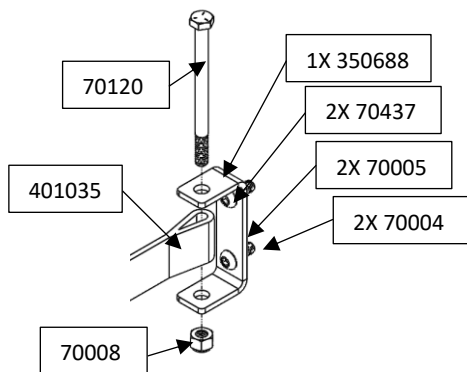

Figure 17: Complete Door Stop Install
27. Thread the other side of the door stop strap into door jam bracket (installed in Step 25 using  $\frac{1}{4}$ "-20 x 3" bolt and  $\frac{1}{4}$ "-20 nylock nut) (Figure 17).